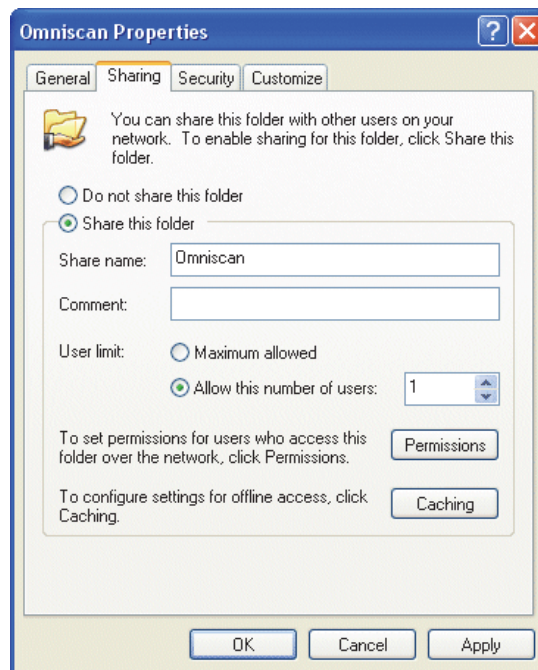

Figure 7-13 The Sharing tab of the Omnican Properties dialog box (Windows XP)
3. In the **Omnican Properties** dialog box, click the **Sharing** tab (see Figure 7-13 on page 203).